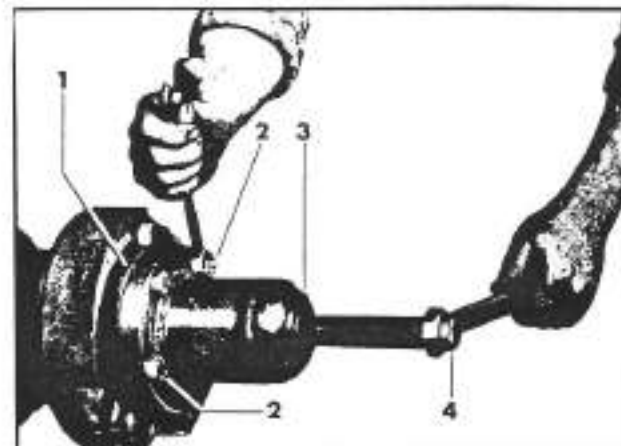

Fig. 3-59. Removal of the wheel hub flange
- Mount on the flange (1; fig. 3-59), by means of five bolts (2; fig. 3-59), the proper pulling tool (3; fig. 3-59).
The puller tool (3; fig. 3-59) for the removal of the wheel hub flange (1; fig. 3-59), can only be obtained from FERRARI Company.
- c. Turn the hexagonal head of the puller tool (4; fig. 3-59) in a clockwise direction and extract the flange (1; fig. 3-59). Separate the flange from the puller tool.
- For remounting the wheel hub flange (1; fig. 3-59), the flange must be heated to a temperature between 150 and 200°C (300 and 390°F). Place the flange on the shaft and seat it properly. Let cool.